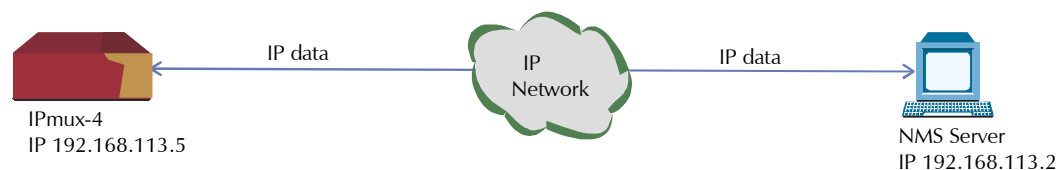

Figure D-1. TFTP Downloading Procedure
- Users who access a MIB browser. The TFTP downloading procedure is illustrated in *Figure D-1*.